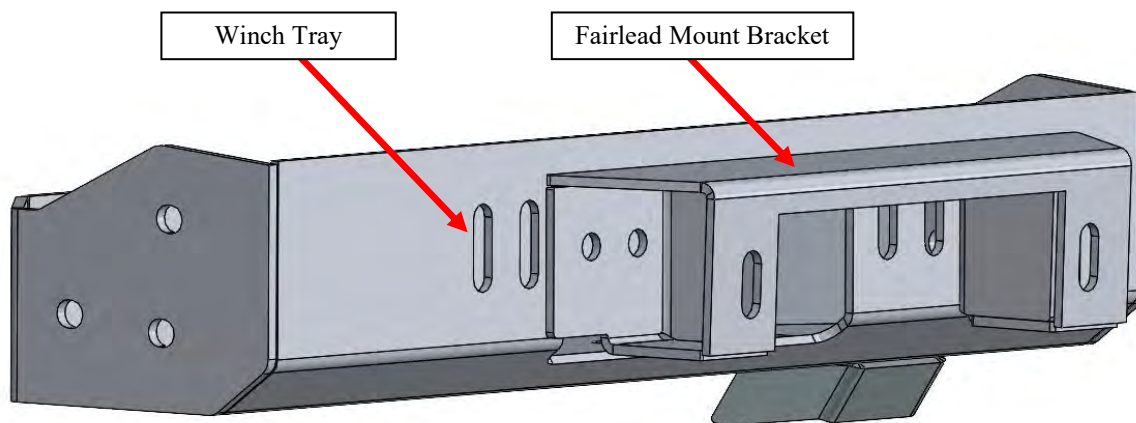

Figure 26
27. Loosely attach the Fairlead Mount Bracket (**item 2**) onto the Winch Tray (**item 1**) using the M12 hardware (**items 10-11 & 13-14**). On each side, slide two short hex head bolts through the fairlead mount bracket and the front of the winch tray. The serrated flanged hex nuts will be on the inside of the winch tray. See **Figure 26**.
28. Loosely install the winch in the Winch Tray (**item 1**) using the hardware included with the winch. See **Figure 26**.